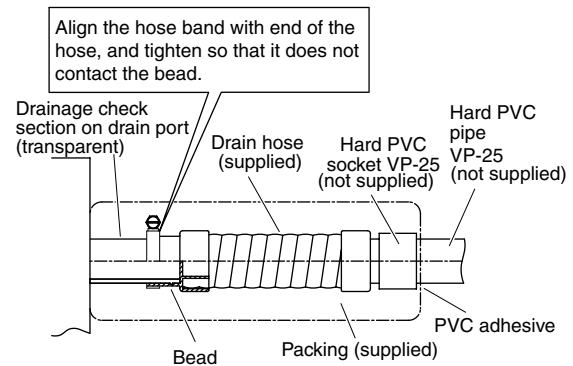

Fig. 3-91
- Prepare standard hard PVC pipe (O.D. 1-1/4") for the drain and use the supplied hose band to prevent water leaks. The PVC pipe must be purchased separately. The transparent drain part on the unit allows you to check drainage. (Fig. 3-91)
- Tighten the hose clamps so their locking nuts face upward. (Fig. 3-91)